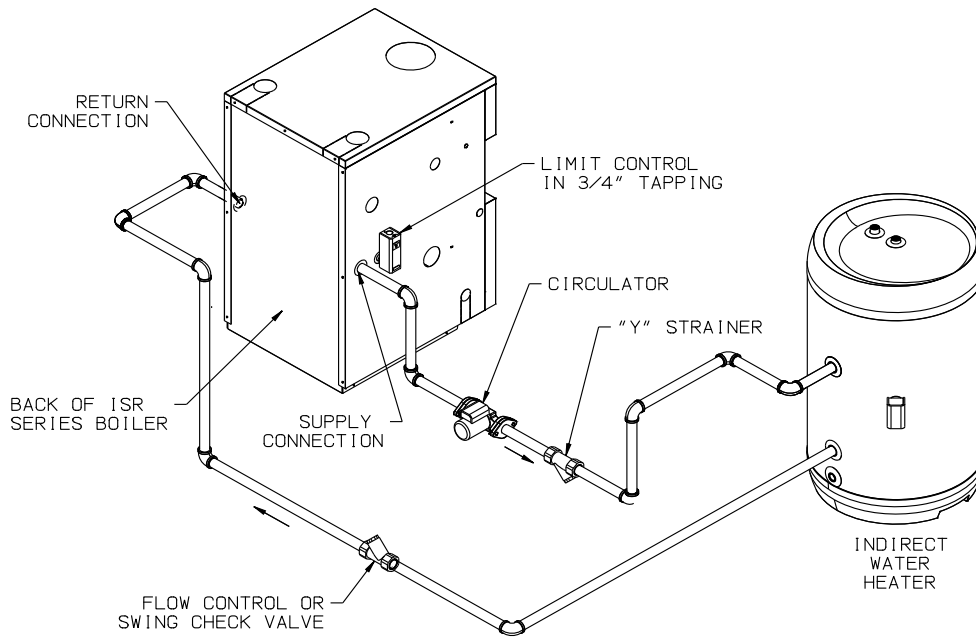
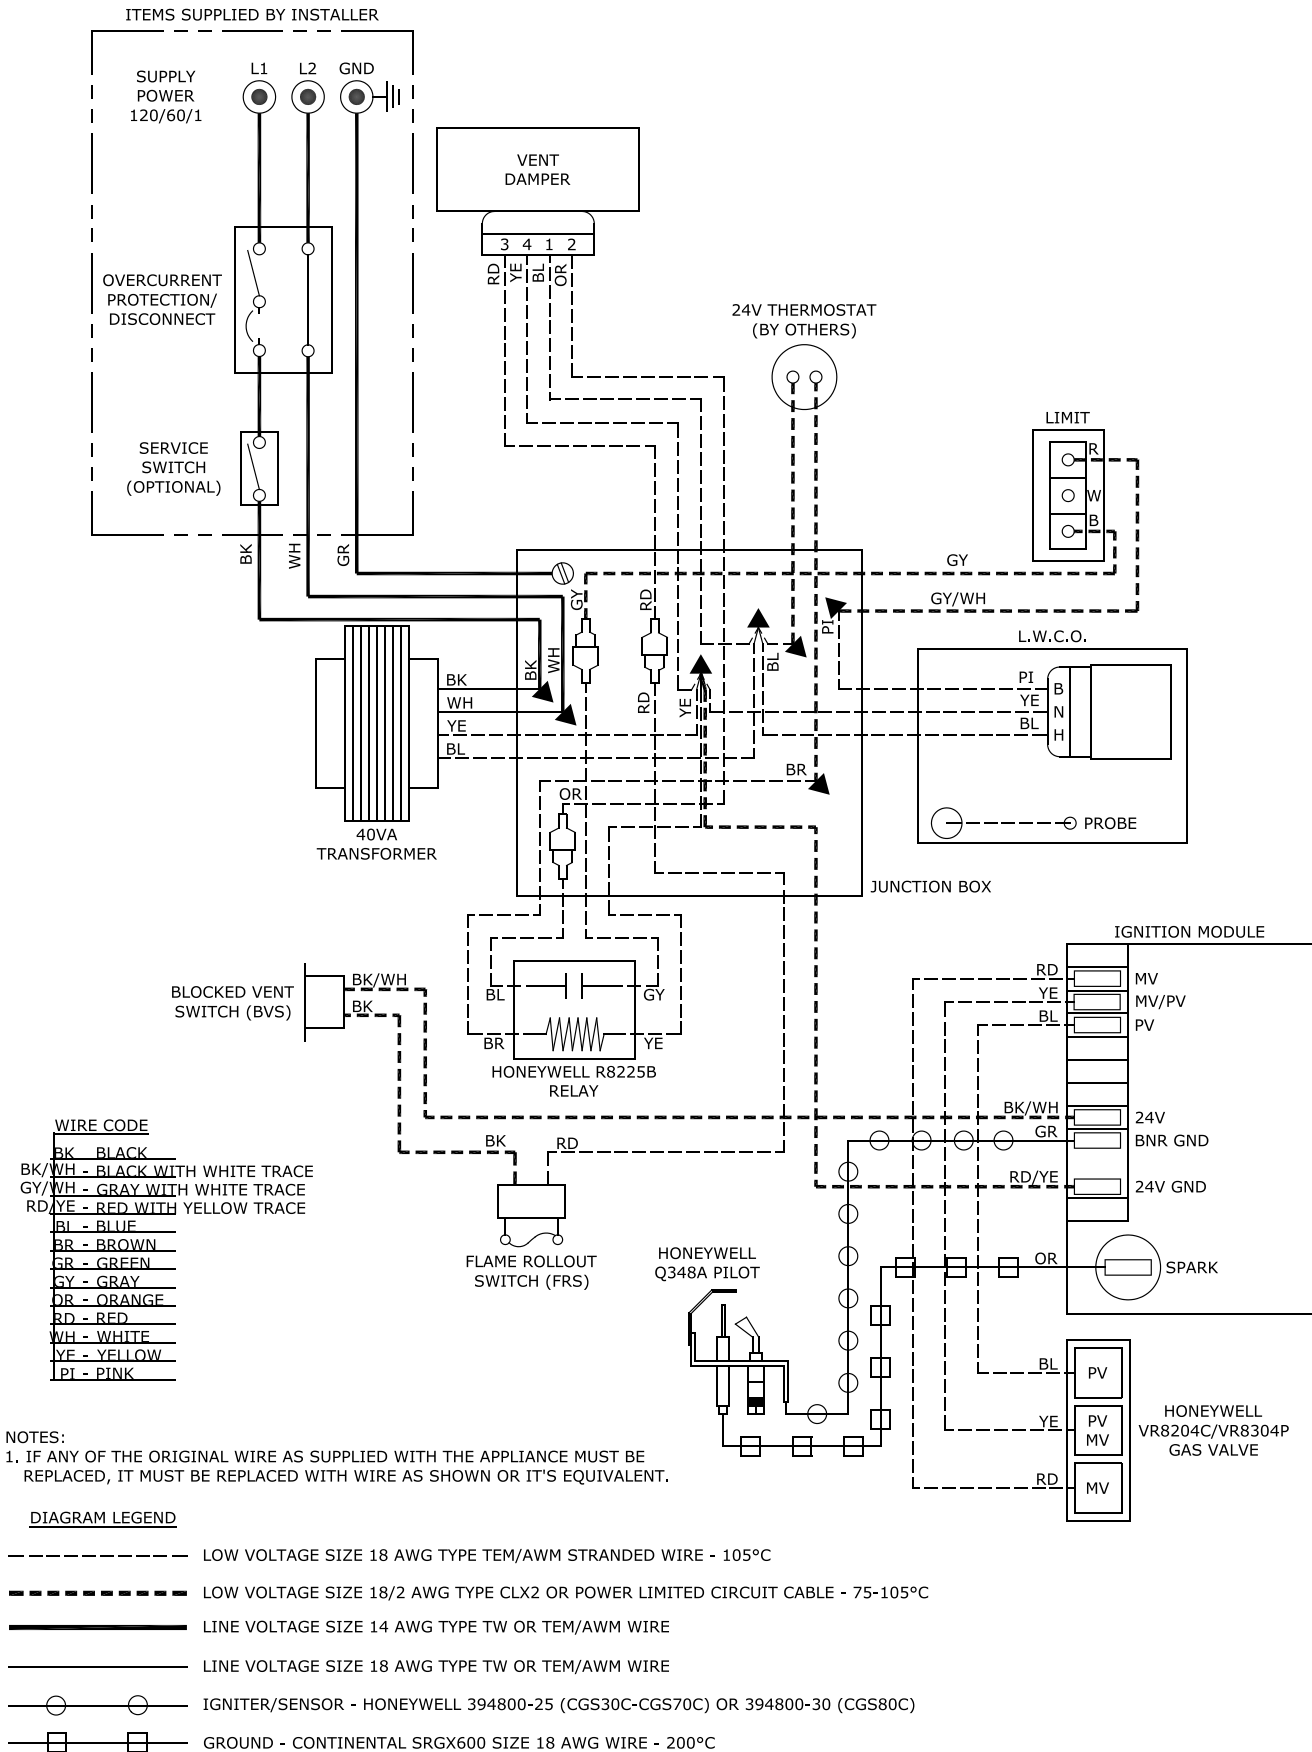

Figure 9-1: Indirect Water Heater Boiler-Side Piping
Figure 11-3: Wiring Diagram, McDonnell & Miller PSE-802 Low Water Cutoff
1. Circulator - Mount the circulator as shown in Figure 9-1. The circulator should be located as low and as close to the boiler as practical. Do not install valves, or other devices having a significant pressure drop, between the boiler and the circulator inlet. All piping between the boiler and the circulator inlet should be 1 in., regardless of the size of the piping required in the rest of the system. See Figure 11-3 in Part 11 for wiring information
4. Boiler Limit Control - Use a SPST break-on-rise temperature limit control such as the Honeywell L4006A. Do not set the limit above 180°F as doing so may cause the boiler to steam when there is no call for heat. See Figure 11-3 for wiring information.